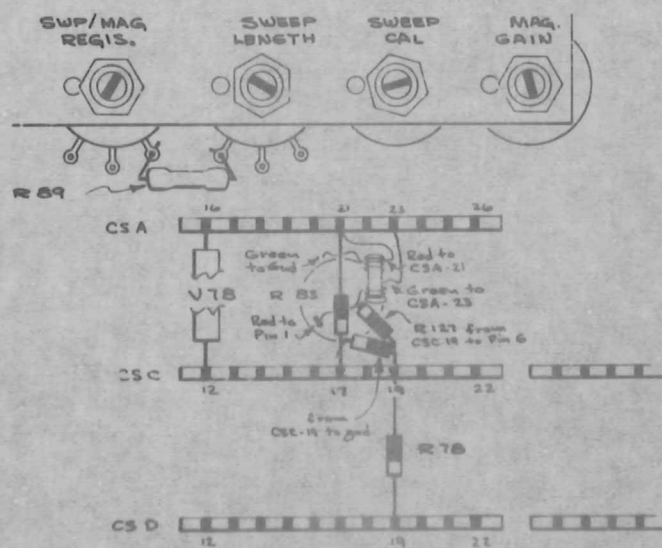

Fig. 4
- () 8. Resolder R89 from the front terminal of the Swp Length potentiometer to the rear terminal of the Swp/Mag Regis potentiometer (see Fig. 4, step 8).
- () 9. Unsolder the end of the 68k, 2w resistor (R840) from CSA-20 and temporarily bend the resistor back out of the way (see Fig. 4).
- () 10. Remove and discard the 1.8 meg resistor (R83) connected between CSA-22 and CSC-17 (see Fig. 4).
- () 17. Remove and discard the white-brown-black-brown wire connected between pin 6 of V78 and CSC-12 (see Fig. 4).
- () 18. Solder a 6 in. white-brown-black-brown wire (from kit) between CSC-12 and CSA-22; dress the wire along the cable harness (see Fig. 4).
- () 19. Unsolder the remaining white-brown-black-brown wire from pin 6 of V78 and solder it to CSA-22 (see Fig. 4).
- () 20. Solder the 270k, 1/2w resistor (from kit) from pin 5 of V78 to CSA-22 (see Fig. 4).
- () 27. Dress the white wire (from pin 16 of the plug-in connector) through the middle hole in the 3-hole post; pass it through the grommet and solder it to CSA-21 (see Fig. 4).
- () 32. Solder this wire to CSA-20 (see Fig. 4).